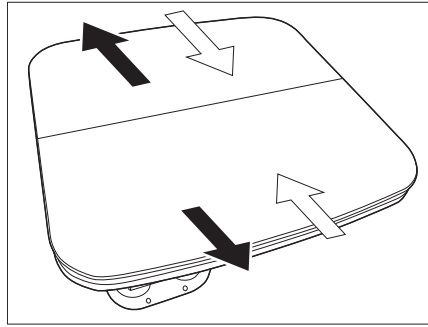

Fig. 100 Pull the outer parts apart
- Pull apart the outer parts of the table (Fig. 100 - black arrows).
- Push the outer parts of the table together (Fig. 100 - white arrows).